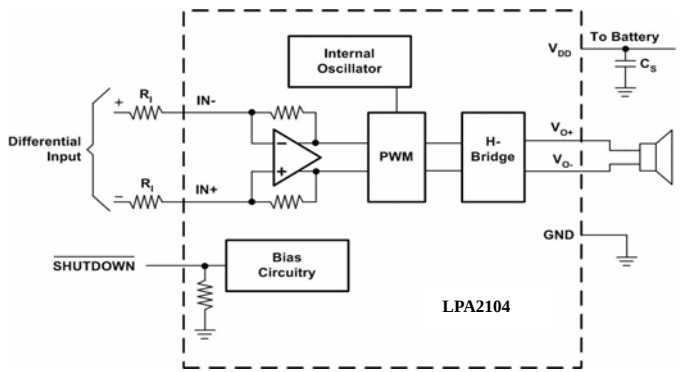
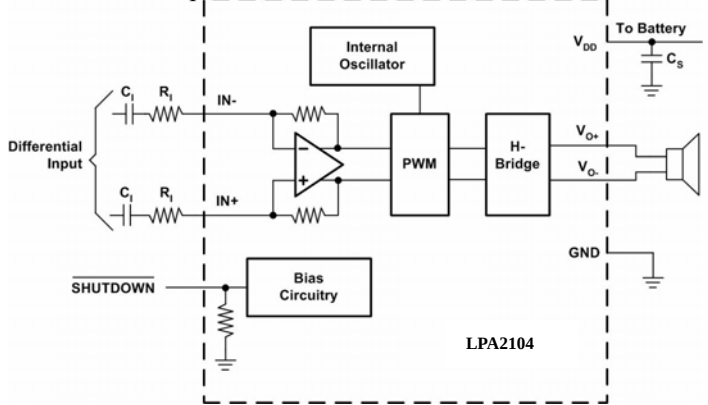
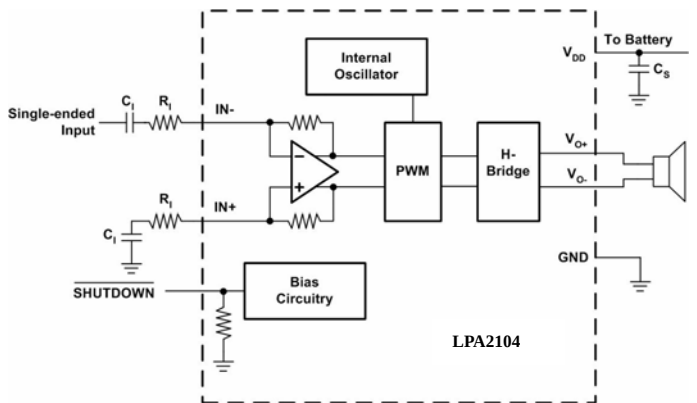
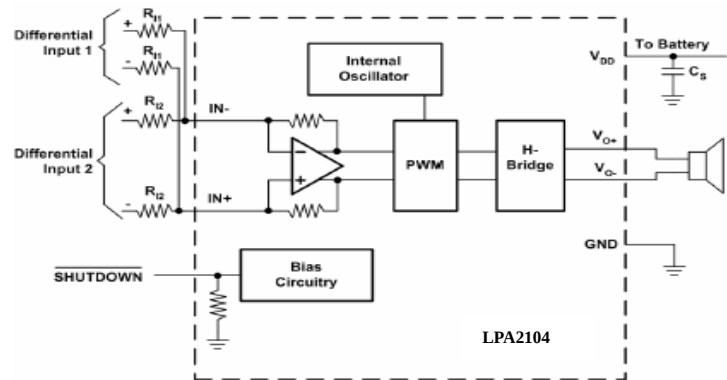

Figure 30. Typical Application Schematic With Differential Input for a Wireless Phone
Figure 31. Typical Application Schematic With Differential Input and Input Capacitors
Figure 32. Typical Application Schematic With Single-Ended Input
Figure 33. Application Schematic With Summing Two Differential Inputs
Figure 30 shows the LPA2104 typical schematic with differential inputs and Figure 31 shows the LPA2104 with differential inputs and input capacitors, and Figure 32 shows the LPA2104 with single-ended inputs. Differential inputs should be used whenever possible because the single-ended inputs are much more susceptible to noise.
The LPA2104 does not require input coupling capacitors if the design uses a differential source that is biased from 0.5 V to VDD – 0.8 V (shown in Figure 31). If the input signal is not biased within the recommended common –mode input range, if needing to use the input as a high pass filter (shown in Figure 32), or if using a single-ended source (shown in Figure 33), input coupling capacitors are required.
Two extra resistors are needed for summing differential signals (a total of 5 components). The gain for each input source can be set independently (see equations (4) and (5), and Figure 33).